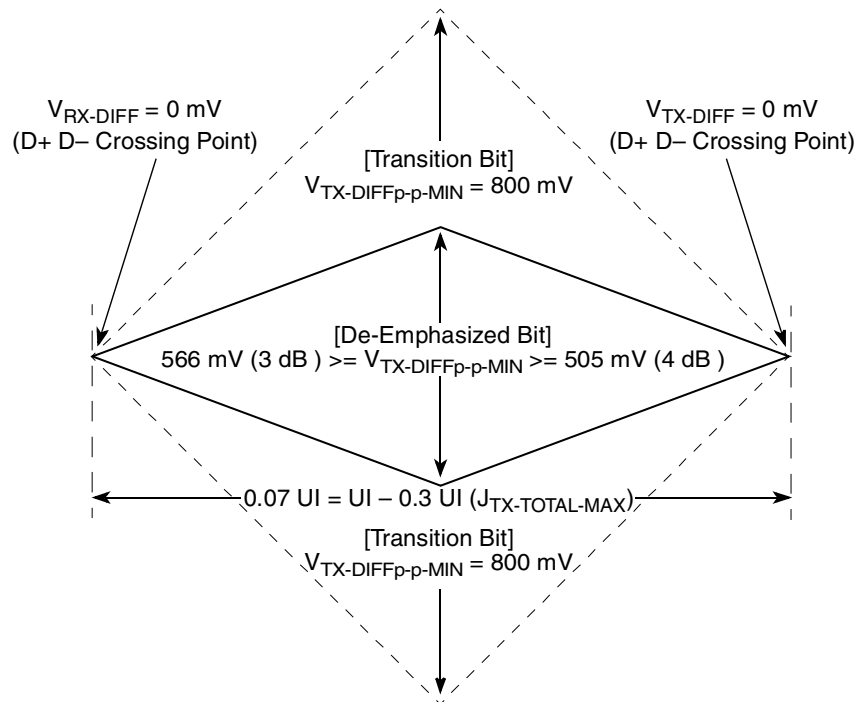
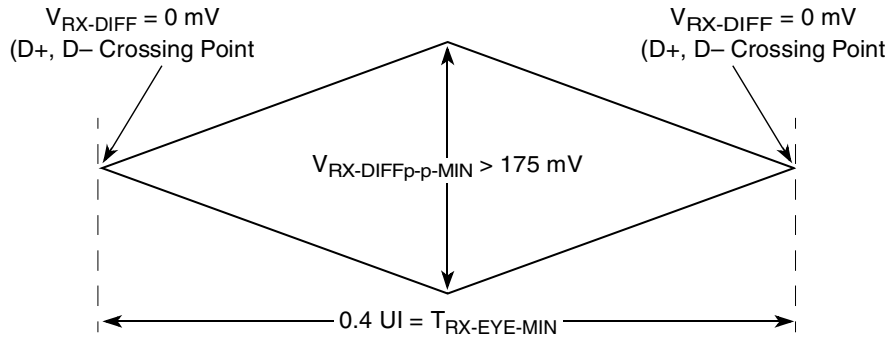
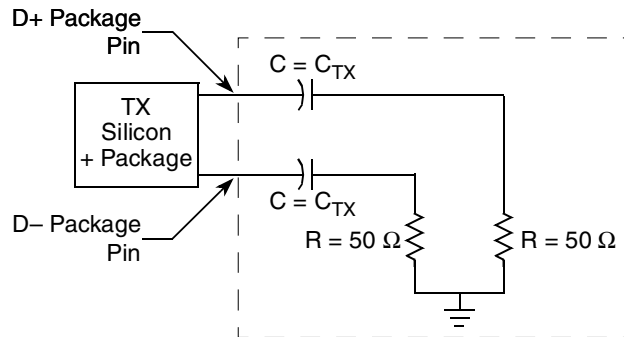

Figure 69. Minimum Transmitter Timing and Voltage Output Compliance Specifications
Figure 70. Minimum Receiver Eye Timing and Voltage Compliance Specification
Figure 71. Compliance Test/Measurement Load
The TX eye diagram in Figure 69 is specified using the passive compliance/test measurement load (see Figure 71) in place of any real PCI Express interconnect + RX component.
2. Specified at the measurement point and measured over any 250 consecutive UIs. The test load in Figure 71 should be used as the RX device when taking measurements (also refer to the Receiver compliance eye diagram shown in Figure 70). If the clocks to the RX and TX are not derived from the same reference clock, the TX UI recovered from 3500 consecutive UI must be used as a reference for the eye diagram.
4. The Receiver input impedance shall result in a differential return loss greater than or equal to 15 dB with the D+ line biased to 300 mV and the D- line biased to -300 mV and a common mode return loss greater than or equal to 6 dB (no bias required) over a frequency range of 50 MHz to 1.25 GHz. This input impedance requirement applies to all valid input levels. The reference impedance for return loss measurements for is 50 ohms to ground for both the D+ and D- line (that is, as measured by a Vector Network Analyzer with 50 ohm probes - see Figure 71). Note: that the series capacitors CTX is optional for the return loss measurement.
The RX eye diagram in Figure 70 is specified using the passive compliance/test measurement load (see Figure 71) in place of any real PCI Express RX component.
Note: In general, the minimum Receiver eye diagram measured with the compliance/test measurement load (see Figure 71) will be larger than the minimum Receiver eye diagram measured over a range of systems at the input Receiver of any real PCI Express component. The degraded eye diagram at the input Receiver is due to traces internal to the package as well as silicon parasitic characteristics which cause the real PCI Express component to vary in impedance from the compliance/test measurement load. The input Receiver eye diagram is implementation specific and is not specified. RX component designer should provide additional margin to adequately compensate for the degraded minimum Receiver eye diagram (shown in Figure 70) expected at the input Receiver based on some adequate combination of system simulations and the Return Loss measured looking into the RX package and silicon. The RX eye diagram must be aligned in time using the jitter median to locate the center of the eye diagram.
The reference impedance for return loss measurements is 50. to ground for both the D+ and D- line (that is, as measured by a Vector Network Analyzer with 50. probes—see Figure 71). Note that the series capacitors,  $C_{TX}$ , are optional for the return loss measurement.